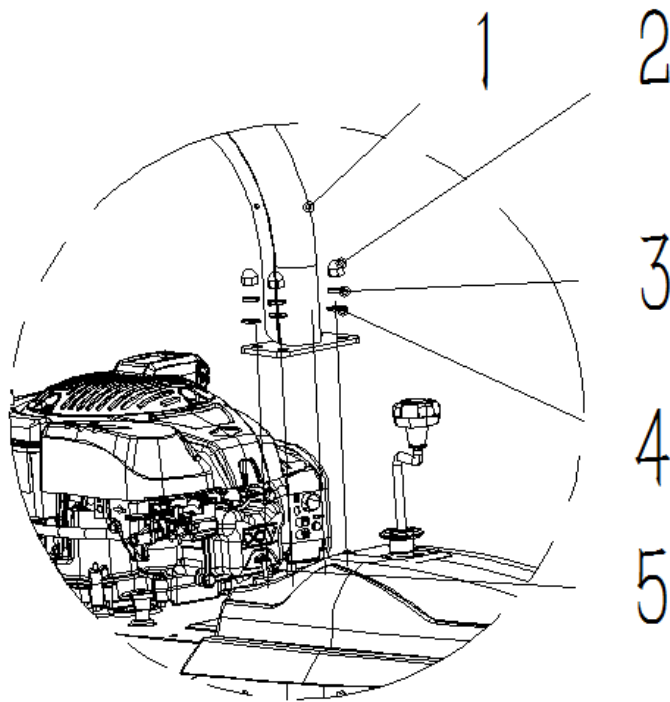

Figure 4
2.4 Install the Armrest: Locate the armrest (1) onto four welded bolts (5) and tighten up with flat gaskets $\Phi 10 \times \Phi 20 \times 1.5$ (4), spring washers $\Phi 10$ (3), and cap nuts M10 (2). (See Figure 4)